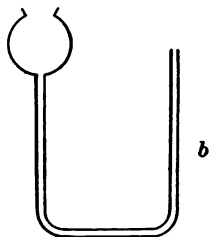

FIG. 6
39. Bend a funnel tube as in Fig. 6 and pour a little water into it. Compare the final liquid levels in both arms of the tube. State fully how the water got to this level in the arm *b*, giving the principles illustrated by its action.